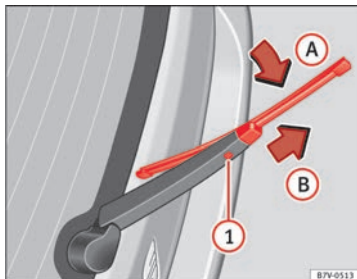

Fig. 114 Changing the rear wiper blade
- Turn the blade slightly ⇒ Fig. 114 (arrow A).
- Hold down the release button ① while gently pulling the blade in the direction of the arrow B.